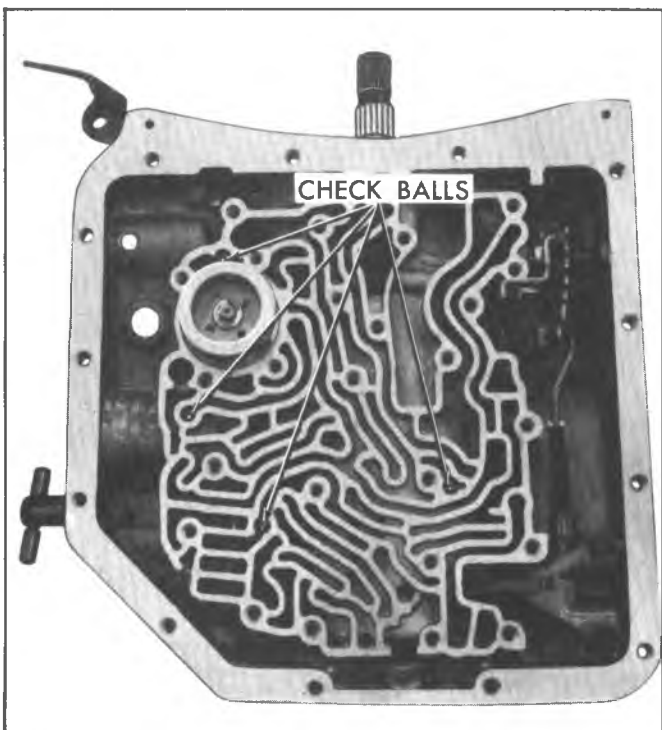

Fig. 15N--Check Ball Four (4) Locations
7. Remove four (4) check balls from correct passages in case face (fig. 15N).